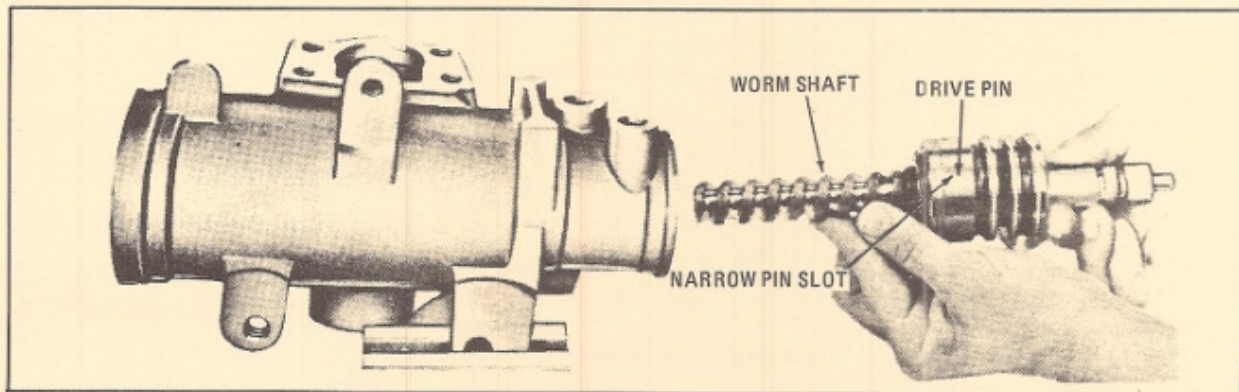

Figure 145 — Installing Valve and Worm Shaft Housing
- Lift the adjuster plug off the stub shaft (see figure 145).
- Pry the thrust bearing retainer off the adjuster plug as shown in figure 145. **Be careful not to score the roller bearing bore.** Discard the retainer.